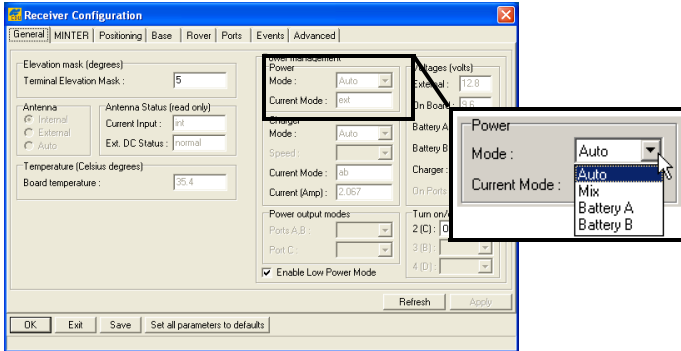

Figure 2-9. Select Power Mode
3. Select the *Power Mode* drop-down list to set the power source (Figure 2-9). *Current Mode* displays the current power source; if using the cradle, it will show “extbat.”